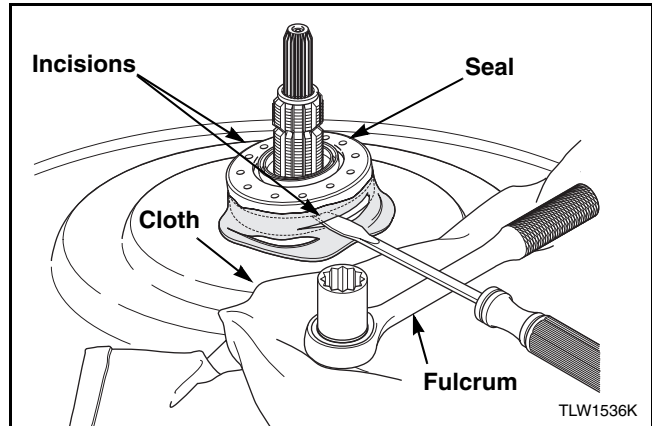

Figure 45
- Make two incisions on either side of inner tub lip seal. Refer to *Figure 45*.
- Insert a flat bladed screwdriver in the incision. Refer to *Figure 45*.
- Lay down a cloth to prevent damage to tub. Refer to *Figure 45*.
- Using a wrench as a fulcrum, pry off seal on both sides. Refer to *Figure 45*.